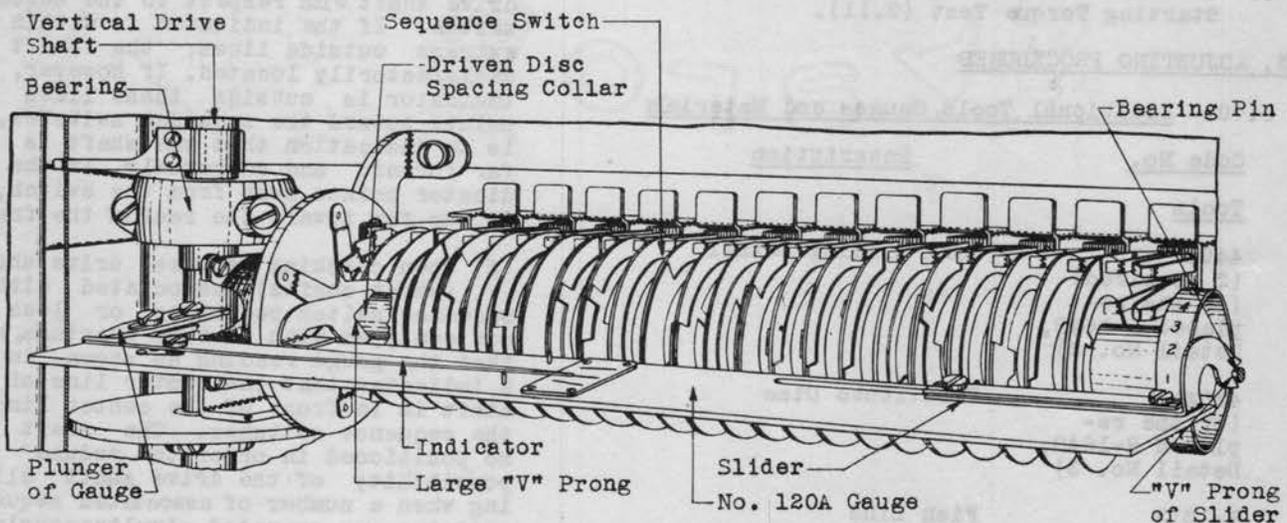

Fig. 4 - Method of Checking Alignment of Bearings
(1) The closer bearings are spaced the more important it is to put the bearings in correct alignment. A small amount of misalignment under such conditions will produce a bind.
(2) Check the location of the vertical drive shaft with respect to the sequence switches as follows: When checking the shaft opposite an "A" type sequence switch, move the slider of the No. 120A gauge to the left as far as possible or if the shaft is checked opposite a "B" type sequence switch, move the slider to the right as far as possible. Place the gauge in position with the "V" prong of the slider on the bearing pin and the large "V" prong on the driven disc spacing collar as shown in Fig. 4. There may be cases where this will cause the prong on the left to touch the "A" cam. In these cases, move the gauge slightly to the left until it clears the cam. Hold the gauge so that it is horizontal. The plunger of the gauge should rest against the vertical drive shaft and the indicator will show the front to rear location of the vertical drive shaft with respect to the sequence switch. If the indicator is within the extreme outside lines, the shaft is satisfactorily located. If however, the indicator is outside these lines and points toward the sequence switches, it is an indication that the shaft is too far forward and conversely if the indicator points away from the switch, it is too far toward the rear of the frame.